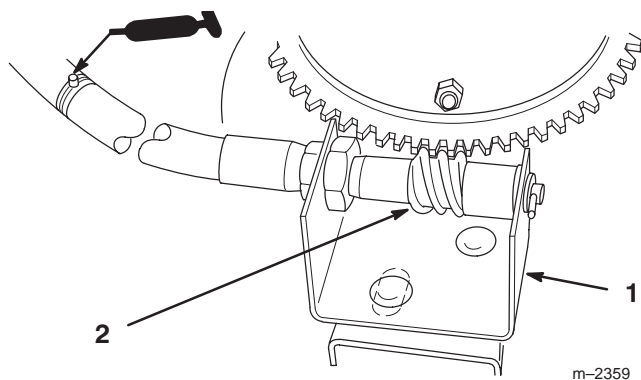

Figure 19
1. Grease flexible shaft (Fig. 19) with No. 2 lithium base grease until grease appears at each end of flexible shaft.
2. Check operation of chute crank and discharge chute. Adjust worm gear, if necessary, by loosening worm bracket mounting screws (Fig. 19), firmly pushing worm gear against teeth in retaining ring, and re-tightening locknuts.